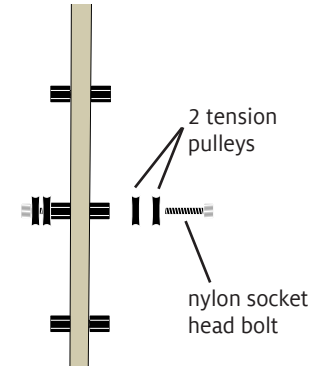

FIGURE 4: INSTALL TENSION PULLEYS
3. Insert a nylon socket head bolt through two of the tension pulleys. Attach the bolt to a coupler nut in the middle of the front leg (Figure 4). Repeat with the remaining nylon socket head bolts and tension pulleys, attaching them to the middle coupler nut on